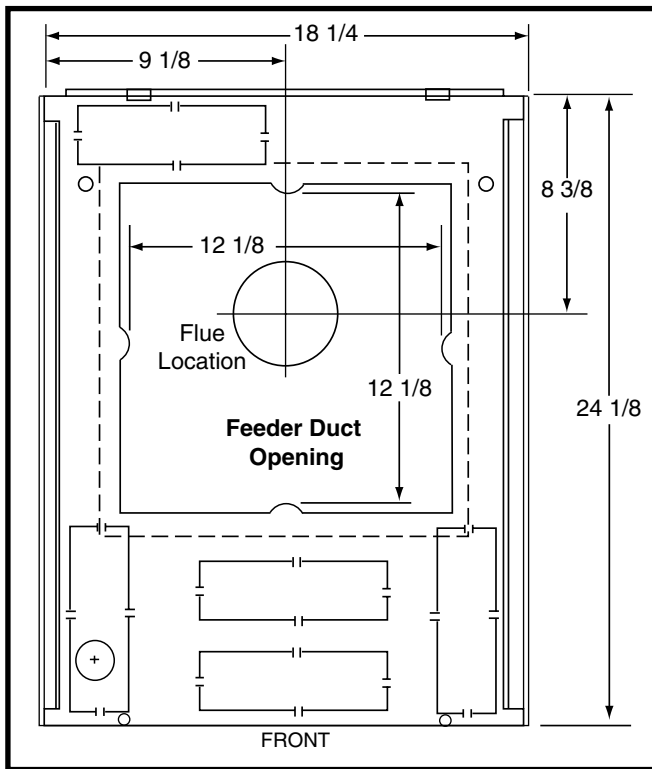

Figure 7. MA-200 Base Pan
1. Using the base pan (Figure 7) as a guide, locate and mark the 12 1/8" x 12 1/8" opening for the Feeder Duct.